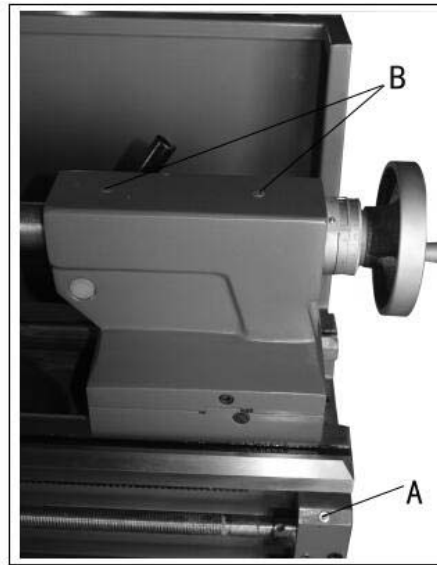

Figure 8
4. **Leadscrew Feed Rod** – Lubricate ball oiler (A, Fig. 8) on leadscrew/feed rod bracket with Mobil DTE® Oil Heavy Medium once daily.
5. **Tailstock** – Lubricate two ball oilers (B, Fig. 8) on tailstock with Mobil DTE® Oil Heavy Medium once daily.